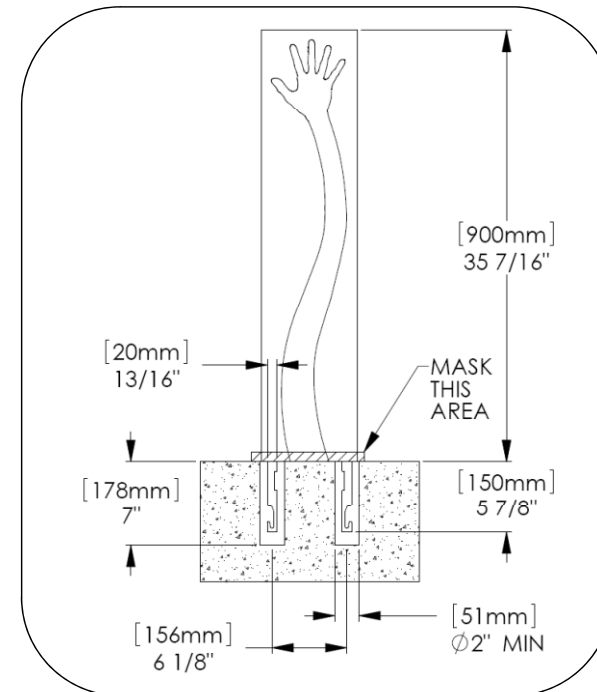

Fig. 2 - Installation
2. Core-drill holes as shown in Fig. 2.
4. Mask area on bike rack above grade line as shown in Fig. 2.